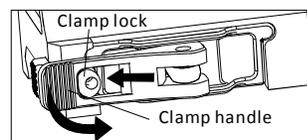

Fig 3-1
2. Designed with our patented nonlinear cam clamping system, no tools are required for attaching to a rail. Push locking button, lift up handle to loosen the locking bar. To mount sight on rail, push the handle down, locking button will automatically engage. The installation is complete.(see fig 3-1)